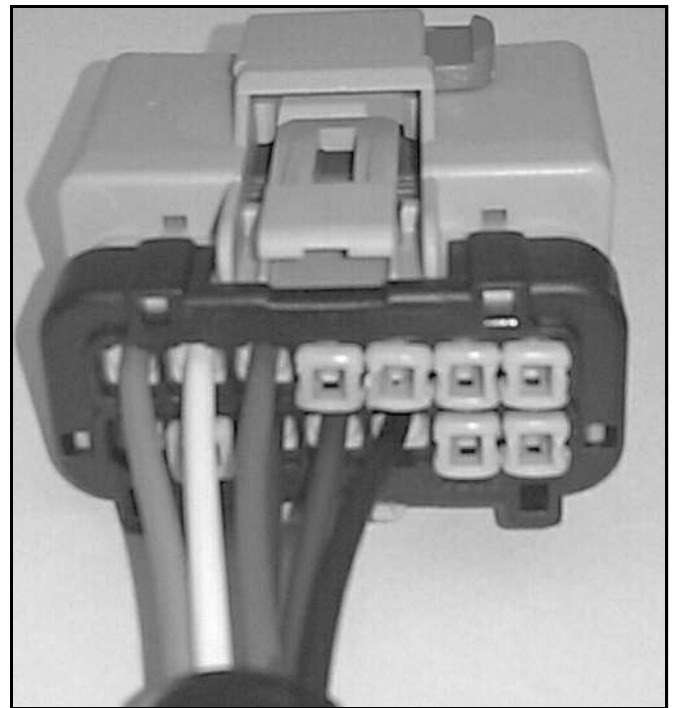

Figure 14
17. Repeat steps 13 & 14 except for step 14, instead of the Violet wire, cut and remove the Orange wire jumping from pin 6 to pin 5. (See Figure 14.)